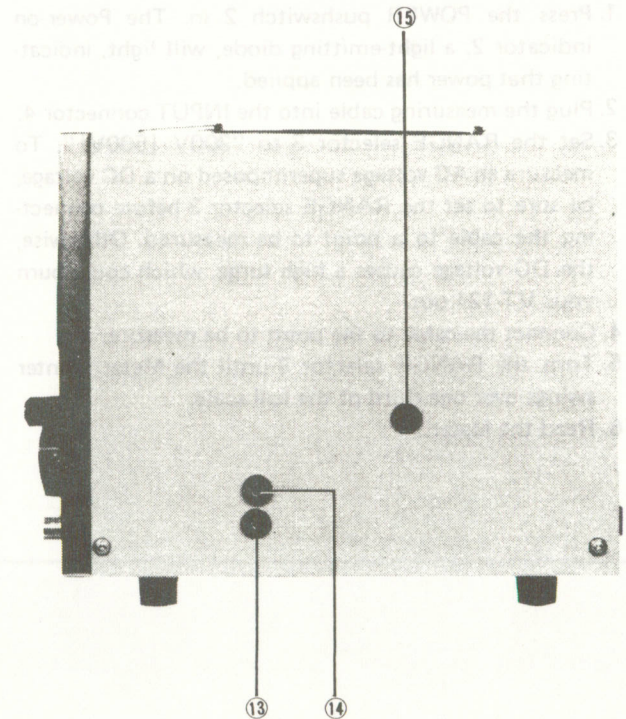

Figure 4 — Preset Controls on Side Panel.
3) Preset Controls on Side Panel (see Figure 4)